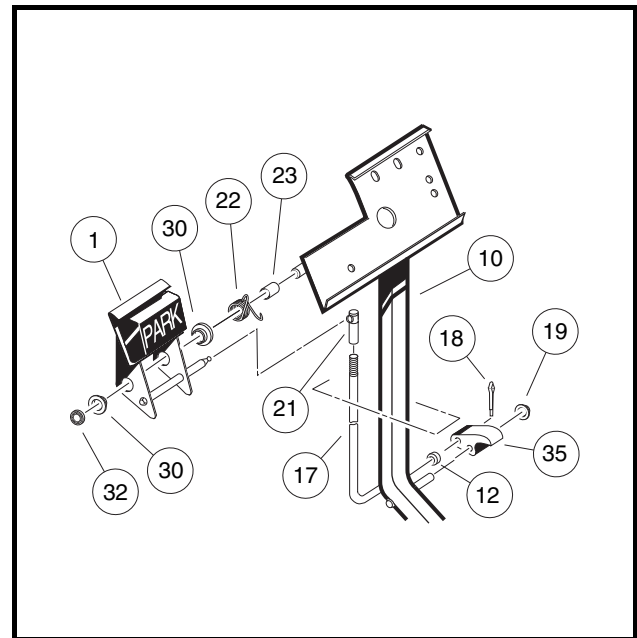
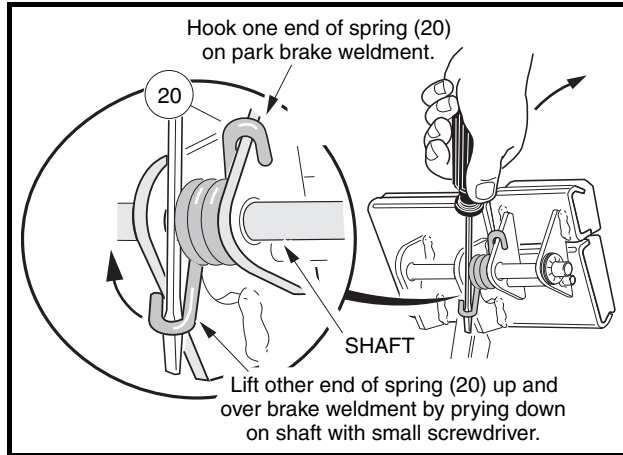

Figure 5-4 Park Brake Assembly
Figure 5-5 Torsion Spring Installation
**NOTE:** *New push nuts (19) and (32) must be used when reassembling the park brake (Figure 5-4, Page 5-4).*
- 3.2. To remove the park brake pedal (1), remove the push retainer nut (32), disconnect the torsion spring (22) (**Figure 5-4, Page 5-4**) and slide the pedal off of the shaft. **See preceding NOTE.**
1. From the bottom side of the floorboard, insert the park brake rod (17) through the brake pedal assembly opening as shown (**Figure 5-4, Page 5-4**). Then install the park brake pawl (35) onto the shaft on the brake pedal assembly (10) and also insert the park brake rod (17) into the park brake pawl.
2. Install the push nut (19) on to the park brake pawl shaft.
3. Install the spacer (23) and torsion spring (22) on the park brake pedal shaft on the brake pedal assembly.
4. Install the two bushings (30) in the park brake pedal and position the park brake pedal on the shaft on the brake pedal assembly weldment (10) (**Figure 5-4, Page 5-4**). Then attach the ends of the torsion spring to the park brake pedal and to the brake pedal weldment as shown (**Figure 5-5, Page 5-6**).
5. Install the push nut (32) on the park brake pedal shaft (**Figure 5-4, Page 5-4**).
6. Connect park brake rod (17) with ball joint (21) to the ball stud on the park brake pedal assembly (**Figure 5-4, Page 5-4**).